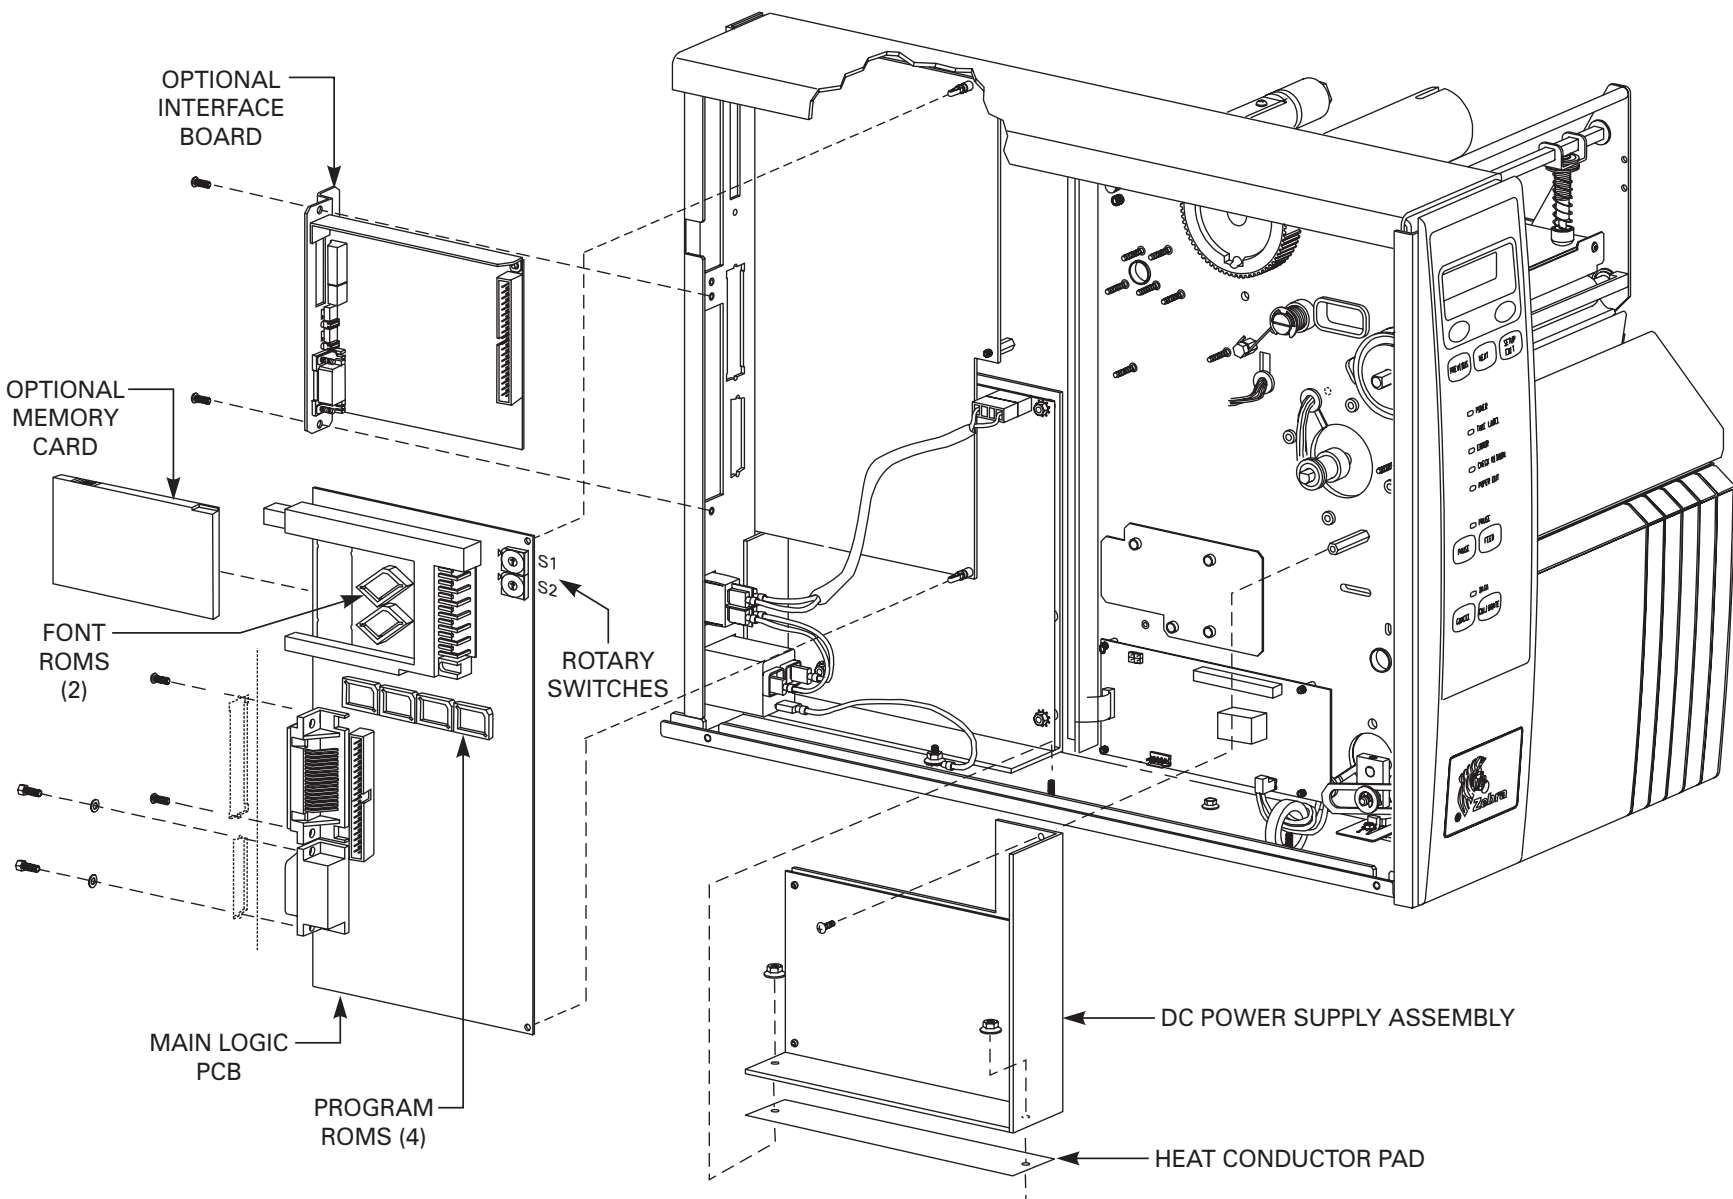

Figure 5.14 Main Logic Board & DC Power Supply Board
6. Refer to Figure 5.14. At the rear of the printer, remove the 4 Phillips screws holding the serial and parallel interface connectors to the back of the printer.
2. Refer to Figure 5.14. Position the cables out of the way while placing the Main Logic Board onto the plastic stand-offs at the top and bottom right hand corners of the board.
5. Refer to Figures 5.14. If required, install the optional interface board through the rear of the printer. (Insure the data cable is properly connected between the Main Logic Board and the Interface Board)
4. Refer to Figure 5.14. Remove the mounting screw and two hex nuts holding the DC Power Supply Assembly against the printer chassis.
1. Refer to Figure 5.14. Position the cables out of the way while placing the DC Power Supply Assembly into the printer. (Insure the heat conduction pad is in powition.)
2. Refer to Figure 5.14. Install the mounting screw and two hex nuts which hold the DC Power Supply Assembly against the printer chassis.